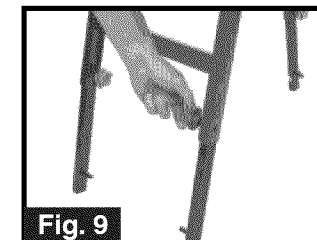

Fig. 9
7. Once legs are securely locked in place, note that telescoping legs can be adjusted to 3 different heights by loosening "screw knobs" and selecting the appropriate pinhole for desired height. To adjust height, loosen knobs on telescoping legs and realign screw knobs to desired operating height; tighten knobs to secure in place. (Fig. 9)